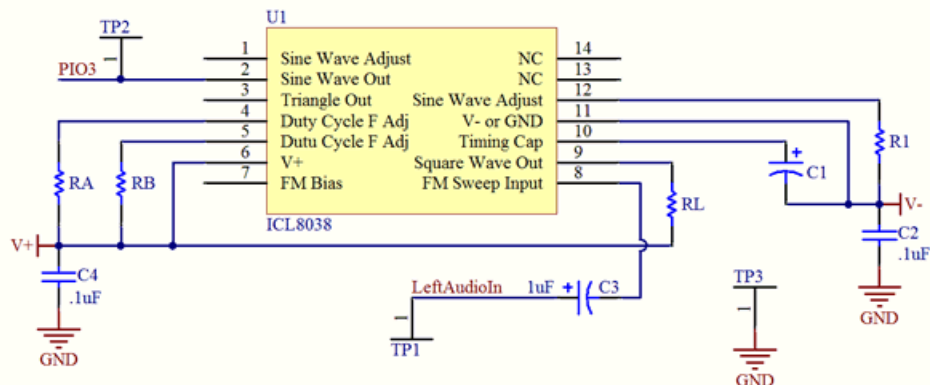

Figure 2: Frequency modulation application circuit from ICL8038 data-sheet.
* Implement the Frequency Modulator circuit shown in the data sheet (reproduced in Figure 2 below). The output of the VCO when no modulation is applied (i.e. the carrier frequency) is given by $f = 0.33/RC$, where $R = R_A = R_B = R_L$. Design the circuit for a carrier frequency of 30 kHz. Test the system response by feeding a 1Hz audio-frequency tone to the FM sweep input pin. Observe the waveforms on the oscilloscope.